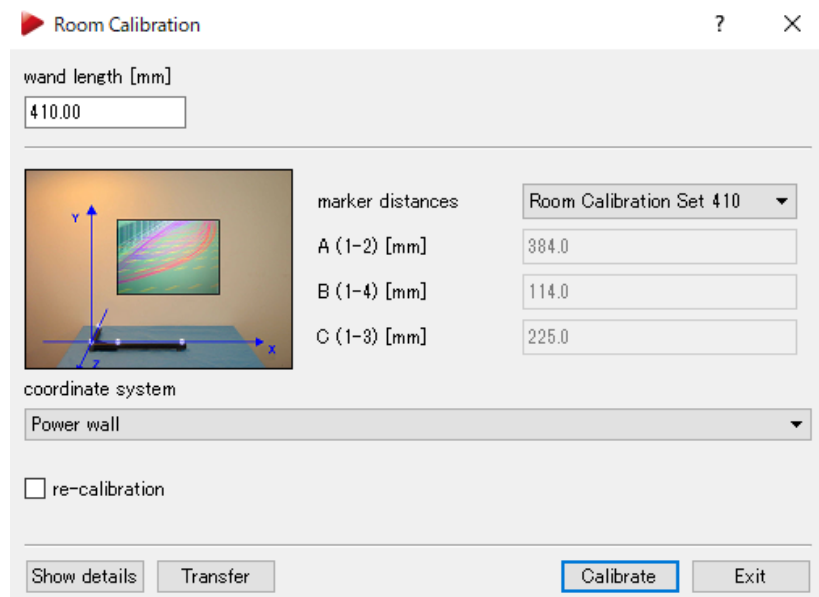

Figure 6 – Dtrack’s room calibration offers two coordinate system options. For our application Power wall is the correct configuration.
1. Make sure that your ART room calibration is configured to “Power wall” in DTrack as shown in Figure 6. In this case the “axisPermutation” should be set to “xyz” in the “absoluteSources” block of the LPVR configuration file.